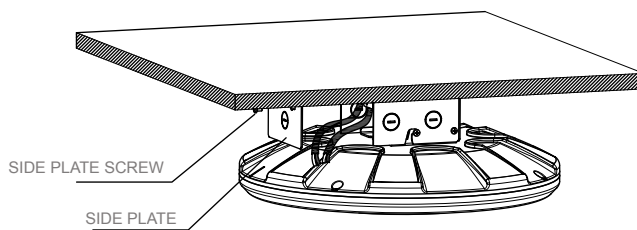

Figure 11
6. Push all wires back into the junction box. Replace the side plate and tight side plate screws. See Figure 11.